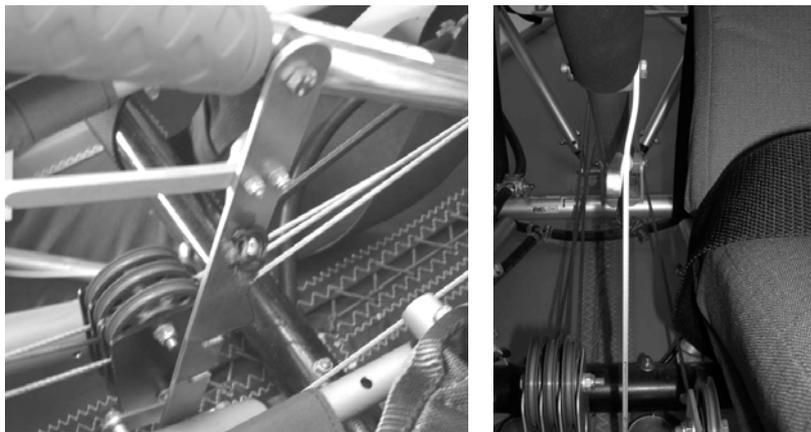

Figure 69; UKMOD flap detent lever, Z-bend shown on right.
- d) Fit the bungee cord from the flap handle to the detent lever, visible in Figure 69. Adjust the tension as required.